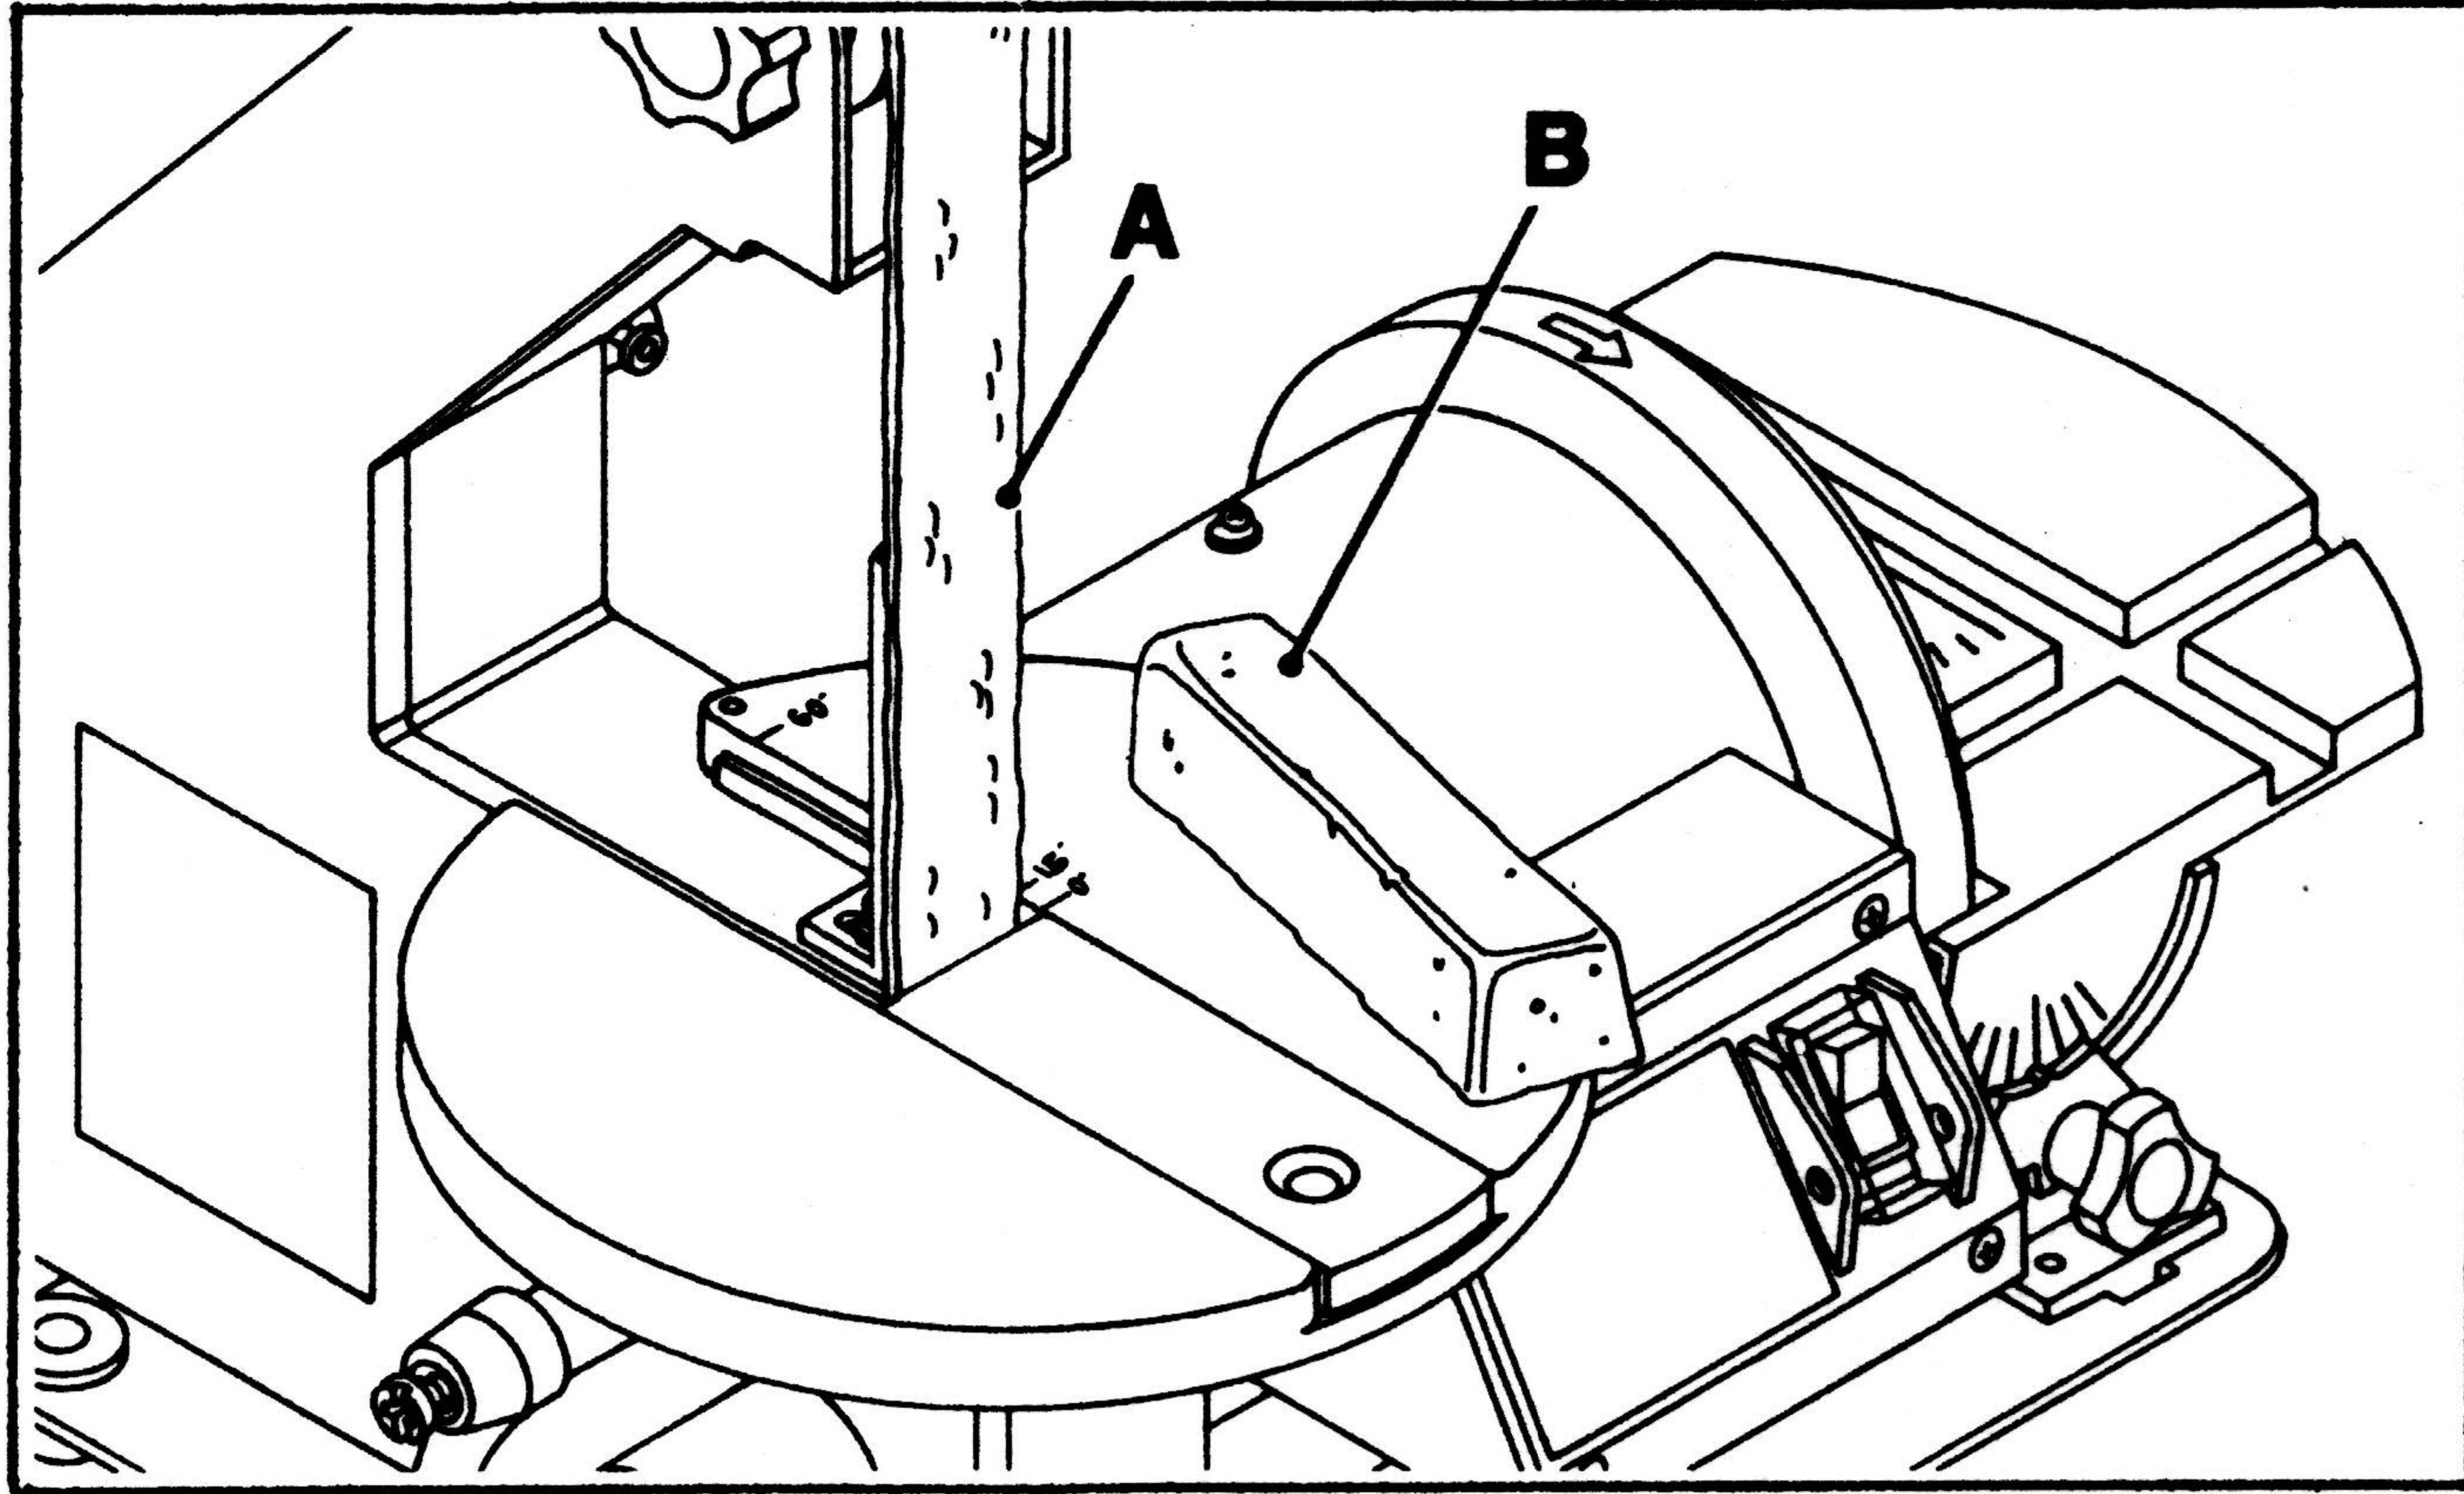

Fig. 21
Numerous polishing, buffing and cleaning operations can be accomplished by using the accessory 8100 Buffing Belt (A) Fig. 21, in place of the sanding belt. Five ounce bars of the most common buffing compounds (B) are available from Dremel for cleaning all types of material. See Dremel Accessory sheet for complete listing.
Fig. 21 illustrates a typical buffing operation.